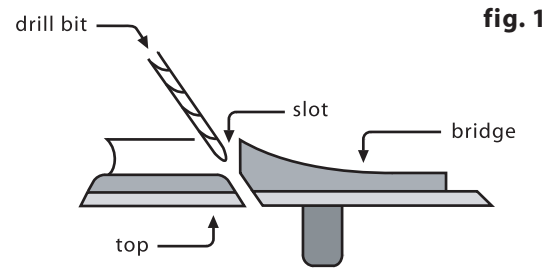

fig. 1
2. Remove the saddle to drill the hole for the pickup. The drill bit needs to be as large as the saddle slot will allow. Inspect the inside of the guitar and note the position of the braces in relation to the saddle slot. Drill at either end of the slot on the side that will enable you to avoid all braces as you penetrate the top, as shown in figures 1 and 2.